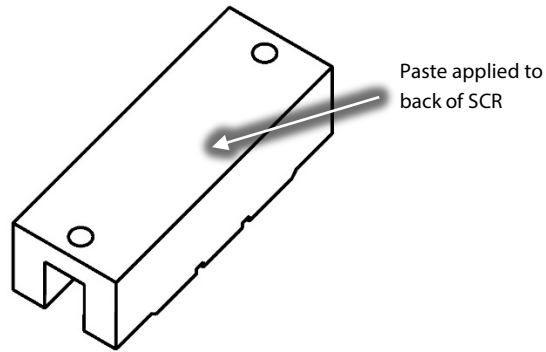

Figure 27 – Heat Sink Paste Application
13. Take each SCR diode and spread a thin and uniform coat of Dow Corning Silicone Heat Sink paste (or equivalent) entirely over the bottom the diode surface. Refer to Figure 27 (Heat Sink Paste Application).